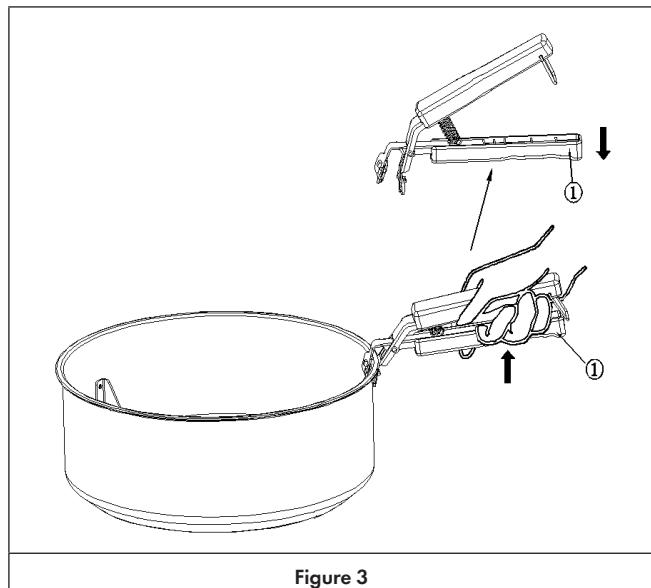

Figure 3
3. Lift the lower part of the handle (1) and do not release it. Make sure that the handle is firmly attached to the pot. Now you can lift the pot (Fig. 3).
4. If you want to remove the handle from the pot, release the pressure of the fingers on the lower part of the handle (1). Now you can remove the handle from the pot (Fig. 3).